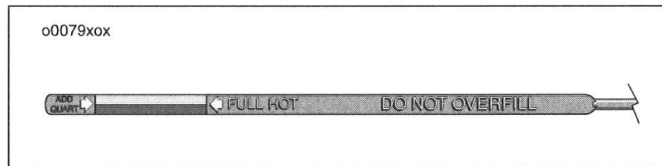

Figure 37. Engine Oil Level
See Figure 37. Engine oil level should be checked *only* when engine is at normal operating temperature. The engine will require a longer warm up period in colder weather.
3. See Figure 37. Remove dipstick and note oil level.